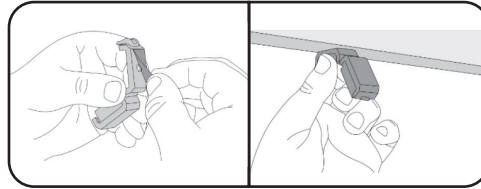

fig 4.3
6. Peel the adhesive backing off a cable management clip and place it on the ceiling. Be sure to press firmly to ensure it sticks. (fig 4.3)